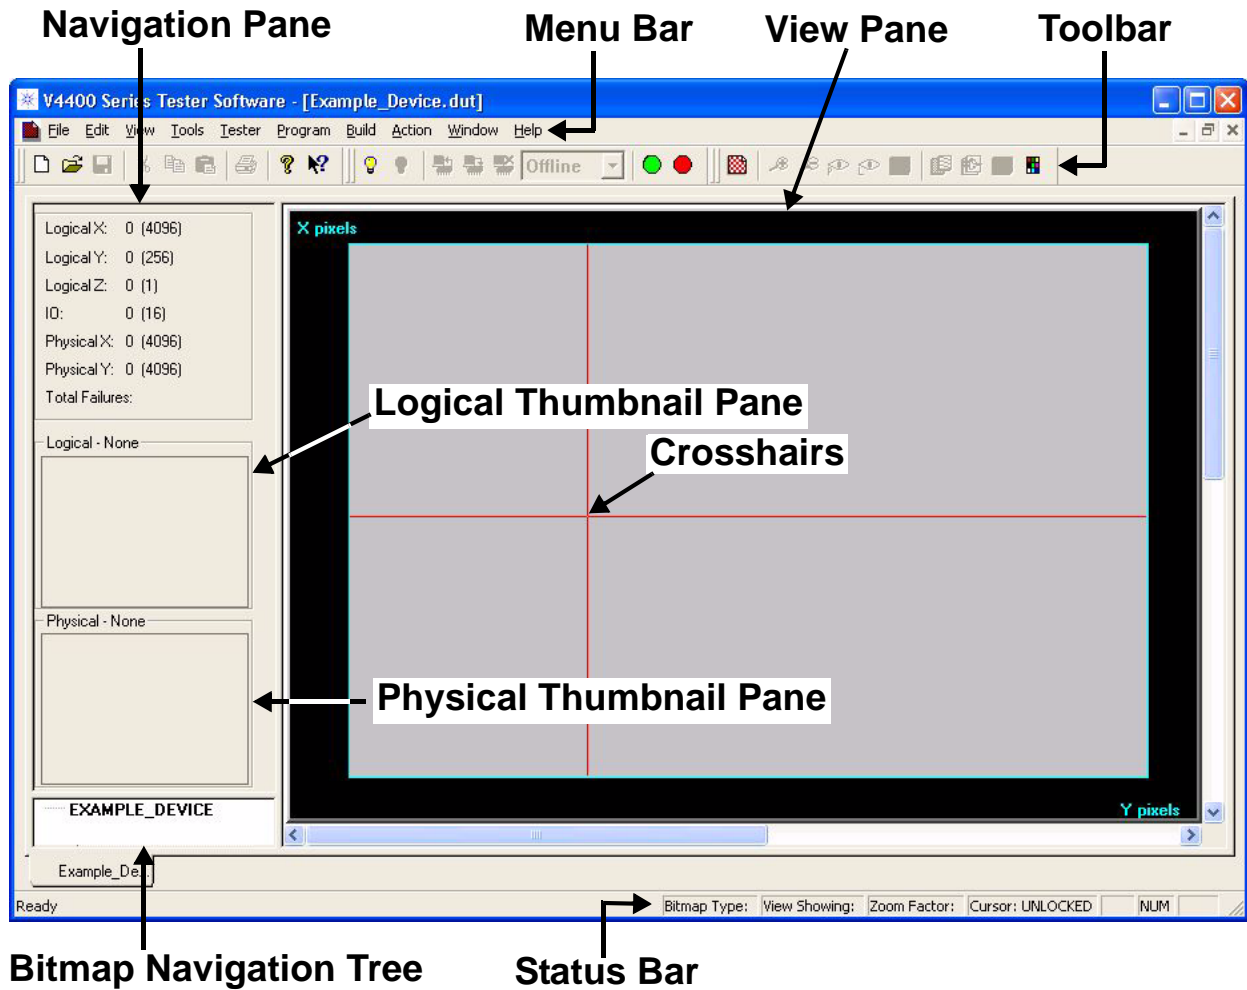

Figure 8-64. Bitmap Tool Main Window Displaying Full-Screen
- 3** Selecting the `View > Navigator Pane` command and then the `View > Output Pane` command hides those panes and displays the Bitmap Tool main window full-screen (Figure 8-64).